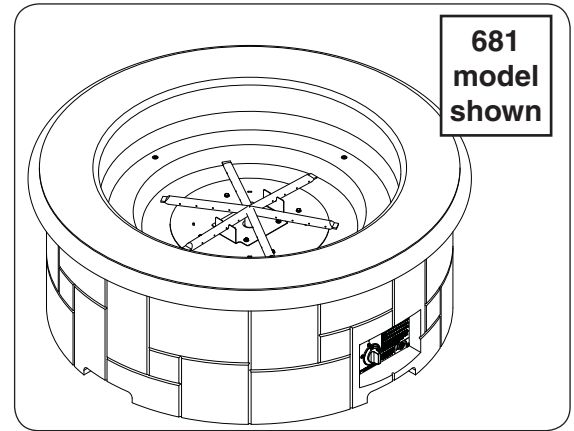

Fig. 23-1 Place unit
1. **CAREFULLY** place unit in an appropriate location (see Fig. 23-1, and refer back to the LOCATION section if needed).